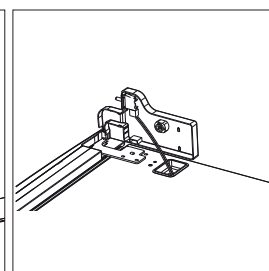

Fig. 16
- ▶ Insert the cable connector into the bushing on the hinge cover (27) from the accessories (Fig. 16).